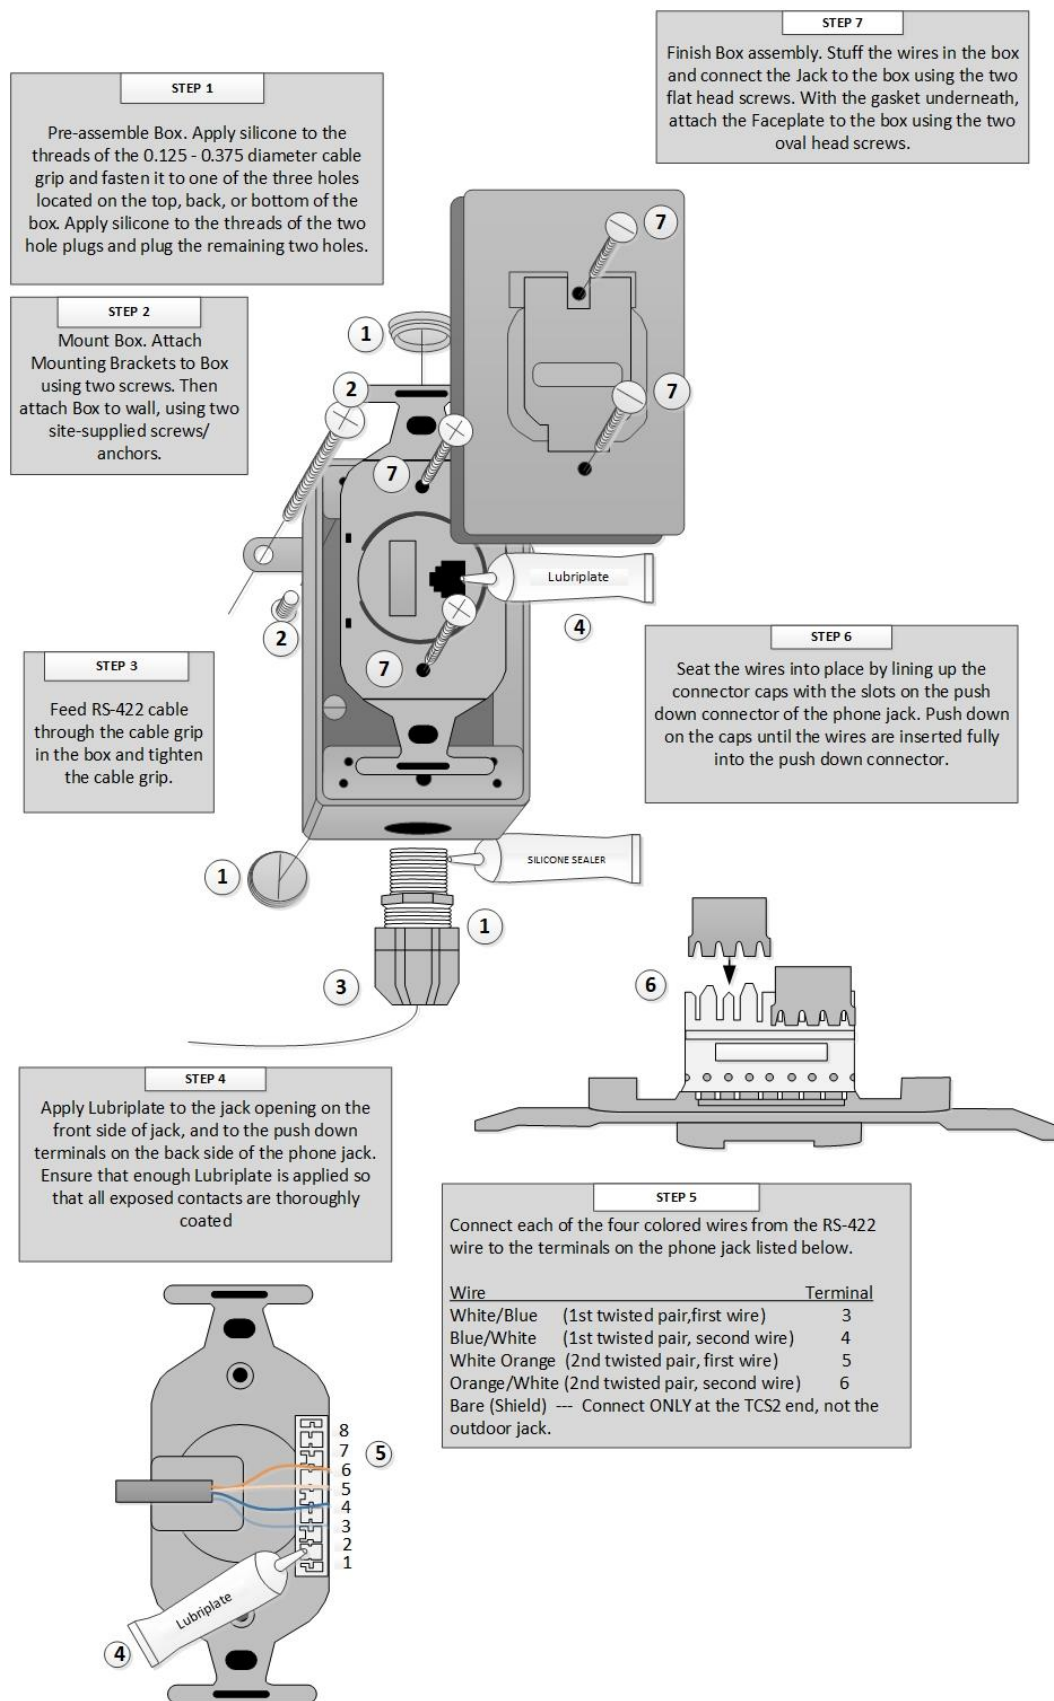

Figure 10: Outdoor Phone Jack Installation and Wiring
- **All Serial communications cable must be RS-422** (shielded twisted pair). For wiring instructions, see Figure 10: Outdoor Phone Jack Installation and Wiring for details.
- See Figure 10: Outdoor Phone Jack Installation and Wiring